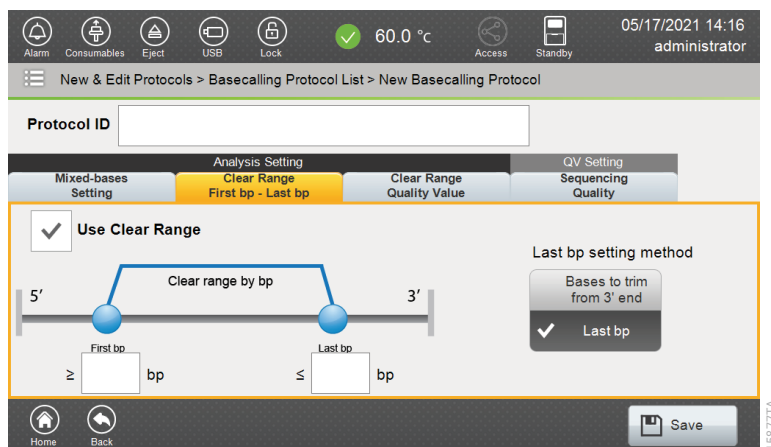
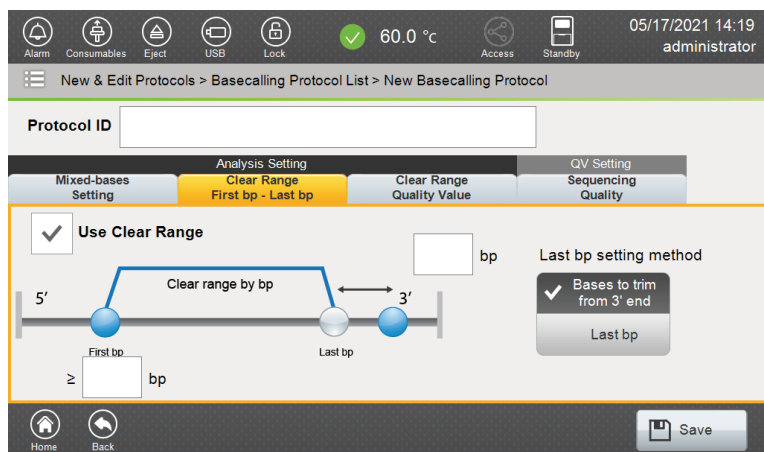

Figure 123. 'Use Clear Range': Last bp view.
Figure 124. 'Use Clear Range': Bases to trim from 3' end view.
Clear Range First bp–Last bp	<p>Checking the “Use Clear Range” box enables the user to define the first and last bp using the fields in the clear range diagram (Figure 123 and Figure 124).</p> <p>Note: When creating a new Basecalling Protocol, the default setting for Clear Range First bp–Last bp is disabled (box unchecked).</p> <p>When using the ‘Clear Range First bp–Last bp’ method in the basecalling protocol, the first bp position to be considered for analysis is set by entering the 5’ bp position in the ‘First bp’ field.</p> <p>For the 3’ end point (last bp position to be considered for analysis), two last bp setting methods are available for setting the 3’ end of the clear range:</p> <ul style="list-style-type: none"> • Last bp: Enter the final base in the sequence to be considered for analysis (enter 3’ bp position in ‘Last bp’ field) (Figure 123). • Bases to trim from 3’ end: Trims the specified number of bases from the 3’ end of the sequence run to determine the last bp to consider for analysis (enter number of bases to trim in ‘bp’ field) (Figure 124). <p>Minimum and maximum values allowed by software for ‘First bp’, ‘Last bp’ and ‘Bases to trim from 3’ end’ fields are 1bp and 1200bp, respectively.</p>
- Check the "Use Clear Range" box to activate the buttons for choosing the setting for first and last base (Figure 123). When this is enabled, the first bp position to be considered for analysis is set by entering this value in the 'First bp' field. The default 3' base setting is Last bp (e.g., if set to 700bp, any bases after the base pair number 700 will not be analyzed). Enter the desired values to specify the first and last bases of the sequence to consider for analysis.
6. Select **Bases to trim from 3' end**. When this is enabled, the first bp position to be considered for analysis is set by entering this value in the 'First bp' field. The number of bases to trim from the 3' end of the sequence is entered into the 'bp' field (Figure 124). Under this setting the last base considered for analysis would depend on the length of sequence obtained.